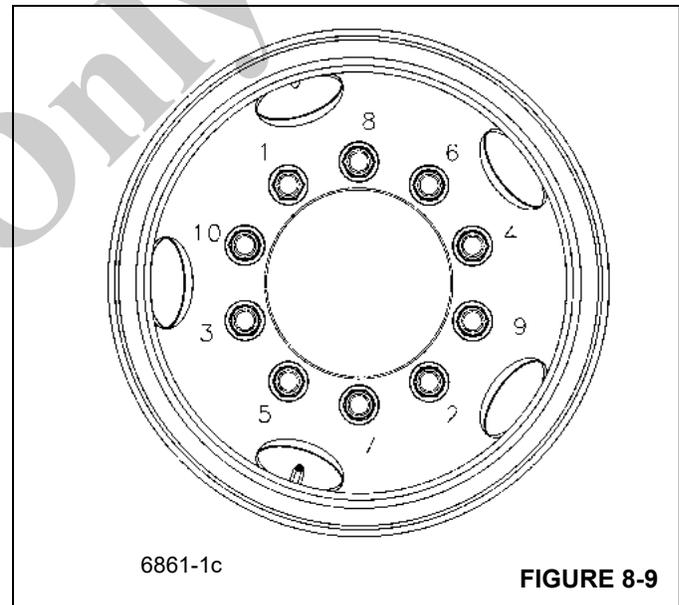

FIGURE 8-9
4. Tighten the rear wheel lug nuts to a preliminary torque of 68 N-m (50 pounds-foot) in the sequence as shown in (Figure 8-9).
5. Torque the rear wheel lug nuts 610 to 678 N-m (450 to 500 pounds-foot) in the sequence as shown in (Figure 8-9).